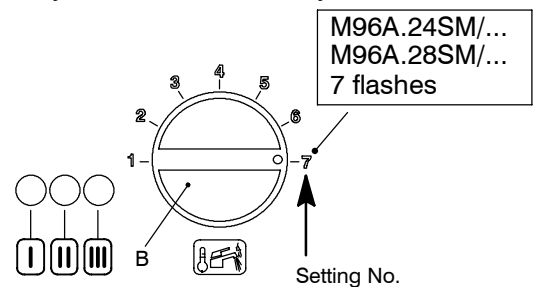

Fig. 22
At this step it is possible to visualize the current setting by keeping the reset button D pressed for more than 5 seconds. The lamps F will flash a number of times corresponding to the setting (Fig. 22).
- 5 Change the setting by turning the knob B on the position corresponding to the desired setting (Fig. 22). By turning the knob B, the lock-out signal lamp E blinks quickly (2 per seconds) indicating that the setting has changed and must be memorised.
At this step it is possible to visualize the current setting by keeping the reset button D pressed for more than 5 seconds. The lamps F will flash a number of times corresponding to the setting of Fig. 22 that must be seven times.